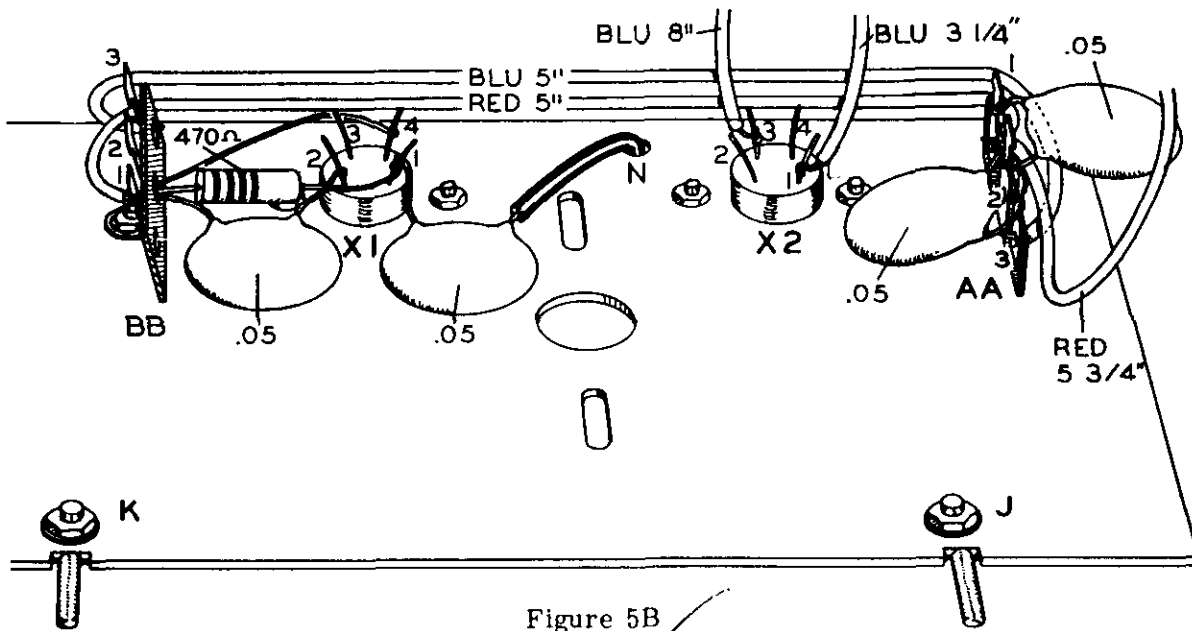

Figure 5B
Refer to Figure 5B for the following steps:
Refer to Figures 5B and 5C for the following steps:
- (✓) Cut both leads of a 62 KΩ resistor (R1, blue-red-orange) to 3/8" in length. Connect one lead to pin 2 of transistor socket X1 (NS). Connect the other lead to lug 3 of terminal strip BB (NS).
- (✓) Cut both leads of a 1 KΩ resistor (R2, brown-black-red) to 3/8" in length. Connect one lead to pin 2 of transistor socket X1 (S-3). Connect the other lead to lug 1 of terminal strip BB (NS).
- (N) Insert one end of a 5" length of blue wire in the eyelet of lug 3 terminal strip BB and solder (S-1, eyelet only). Routing behind both red wires and the .05 μfd capacitor, connect the opposite end to the eyelet of lug 3, terminal strip AA (S-2, eyelet only). See Figure 5B.
- (✓) Connect the free end of the shorter (5") red wire to lug 1 of terminal strip BB (S-2). See Figure 5B.